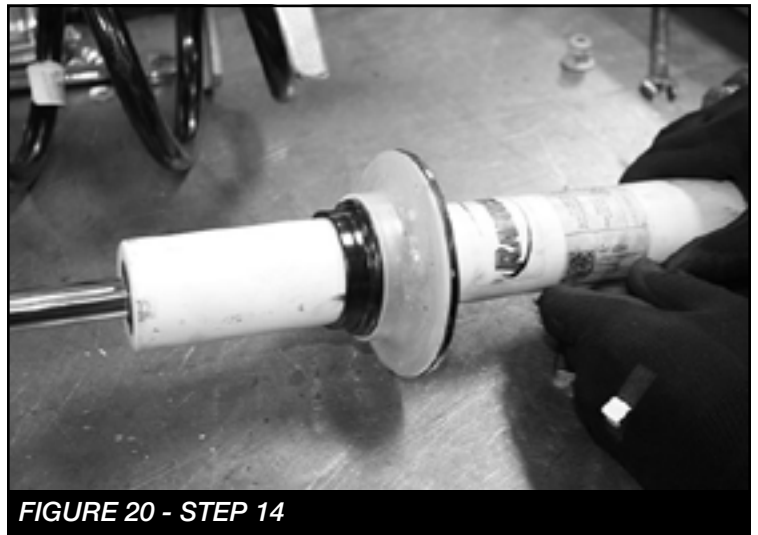

FIGURE 20 - STEP 14
14. Reinstall the lower spring perch. SEE FIGURE 20